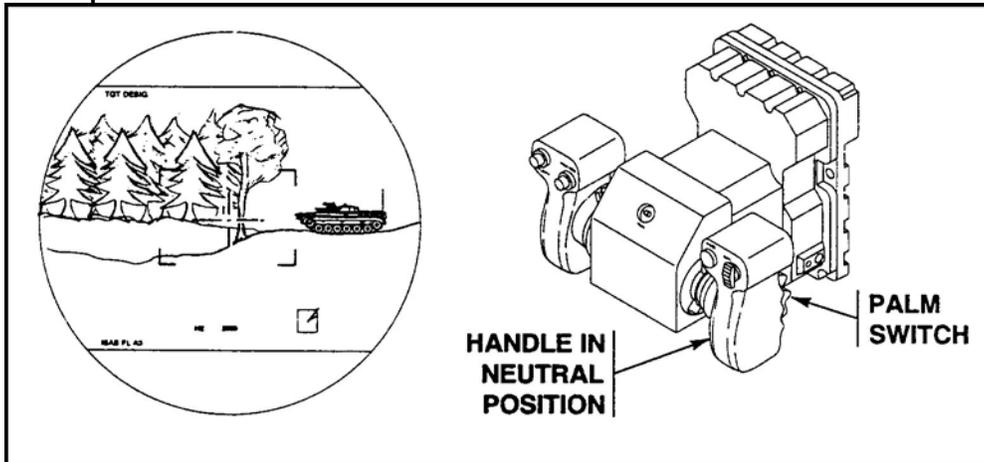

Figure 9. Gunner's hand station.
- (1) Squeeze and hold palm switch on(CHS).
- (2) Move hand station left or right to traverse CIV.
- (3) Move hand station forward and backward to elevate or depress the CIV.
- (4) Repeat, if necessary, steps (1) through (3) until the crosshairs are centered on the target.
- (5) Release palm switches.
- c. Gunner returns the gunner's hand station (GHS) to the neutral position (Figure 9).